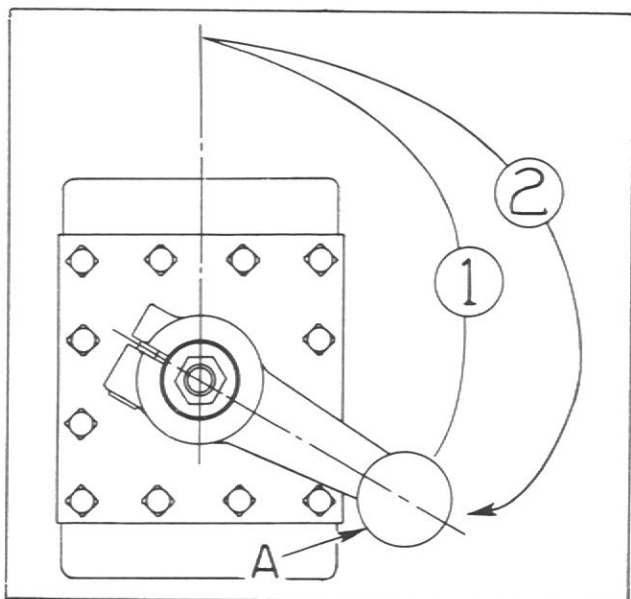

Figure 15 - Motion Sequence for Operating Square Turret
1. Push lever A counterclockwise to the forward end of its stroke. (Movement number 1, figure 15.)
2. Pull lever A to the outward end of its stroke. (Movement number 2, figure 15.)
1. Push the lever (part of movement number 1 in figure 15) to start the index.
3. Continue movements numbers 1 and 2 in figure 15 to complete the index.